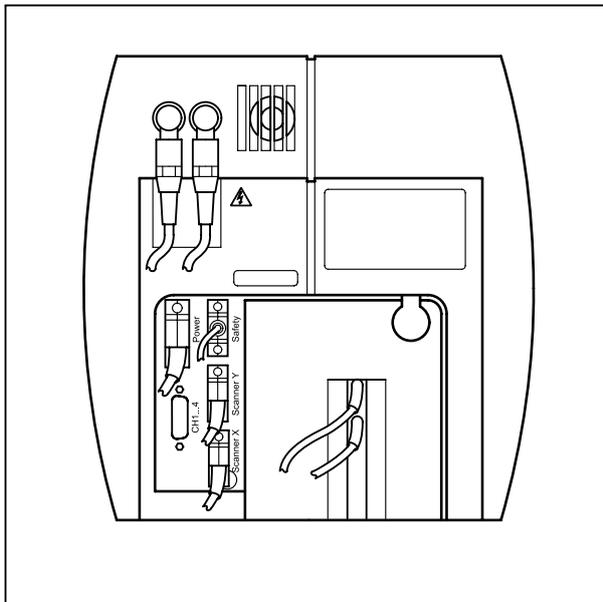

Fig. 8-5 Rear view of META scan head
- LSM 510 META scan head: Remove the blue cover from the back of the scan head (Fig. 8-5 and Fig. 8-6).